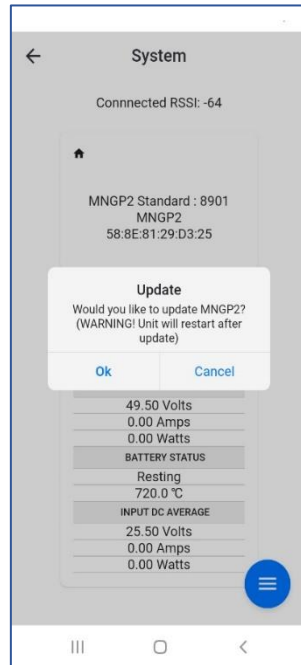

Figure 20
8. FW app will appear as shown in **Figure 20**, select OK.